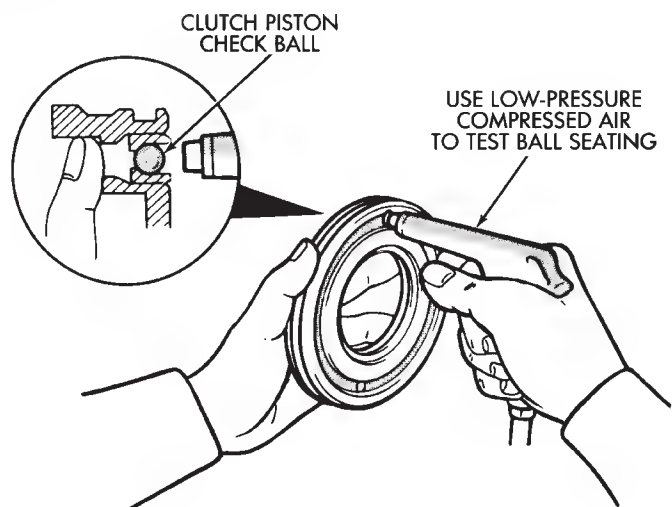

Fig. 17 Testing Clutch Piston Check Ball
(20) Check clutch piston check ball (Fig. 17). Shake piston to see if ball moves freely. Then check ball sealing by applying low pressure compressed air to ball inlet as shown. Air should not leak past check ball.